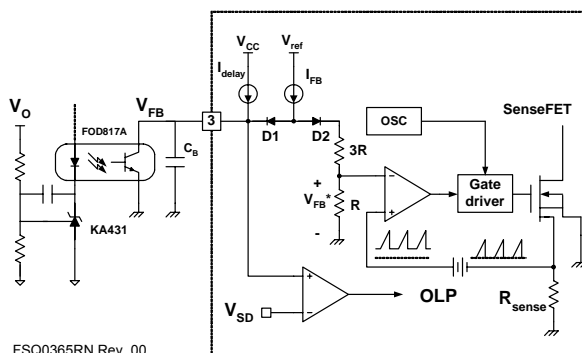

Figure 21. Pulse-Width-Modulation (PWM) Circuit
**2. Feedback Control:** FPS employs current mode control, as shown in Figure 21. An opto-coupler (such as the FOD817A) and shunt regulator (such as the KA431) are typically used to implement the feedback network. Comparing the feedback voltage with the voltage across the  $R_{sense}$  resistor makes it possible to control the switching duty cycle. When the reference pin voltage of the shunt regulator exceeds the internal reference voltage of 2.5V, the opto-coupler LED current increases, thus pulling down the feedback voltage and reducing the duty cycle. This event typically happens when the input voltage is increased or the output load is decreased.
**2.1 Pulse-by-Pulse Current Limit:** Because current mode control is employed, the peak current through the SenseFET is limited by the inverting input of PWM comparator ( $V_{FB}^*$ ), as shown in Figure 21. Assuming that the 0.9mA current source flows only through the internal resistor ( $3R + R = 2.8k$ ), the cathode voltage of diode D2 is about 2.5V. Since D1 is blocked when the feedback voltage ( $V_{FB}$ ) exceeds 2.5V, the maximum voltage of the cathode of D2 is clamped at this voltage, thus clamping  $V_{FB}^*$ . Therefore, the peak value of the current through the SenseFET is limited.